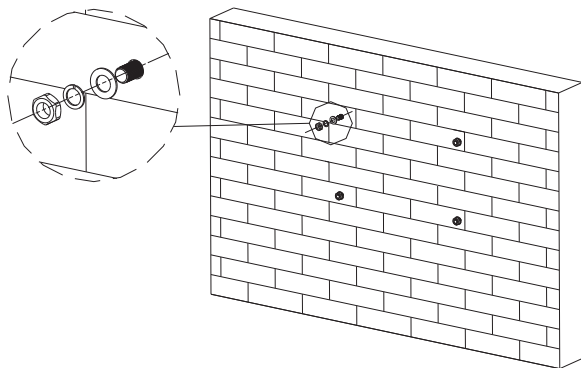

Fig5.4
- Fix the mounting expansion bolt on the wall as the figures shown below, combine four expansion bolt with four M6 nuts. Refer to Fig 5.4.